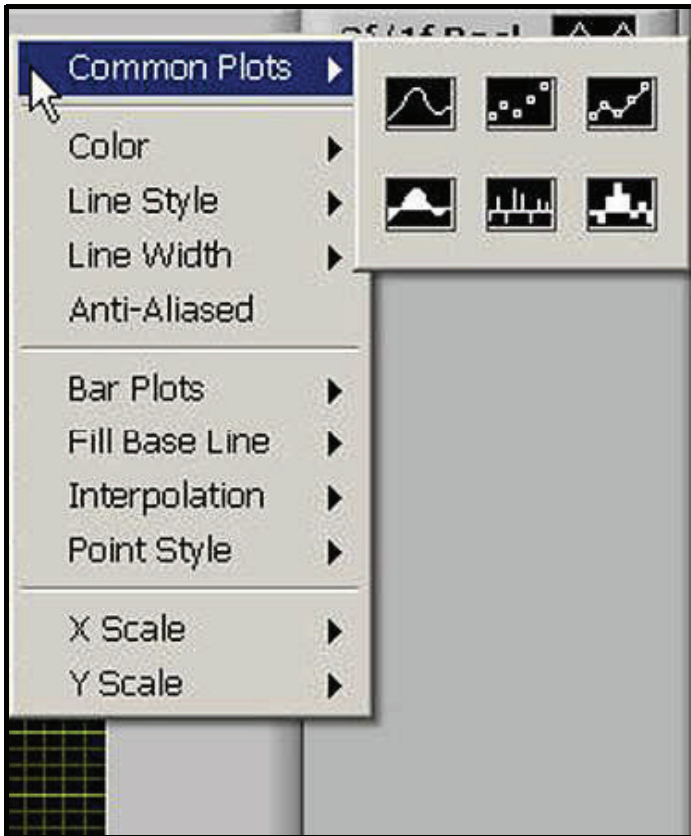

Figure 43: Options for graphing data
2. If you right-click on any series of data within the graph, or you click on the current parameter being-trended item in the legend, you will see a variety of options for graphing data (see Figure 43 below). You can change to a variety of common plots and adjust color, line style, and line width. For some data sets with lots of finite points, you may want to click Anti-Aliased which will smooth the plot line. You can also change bar plots, fill base line, interpolation and point style. X-Scale adjusts the x-scale. Y-Scale adjusts the y-scale and enables the secondary y-axis.